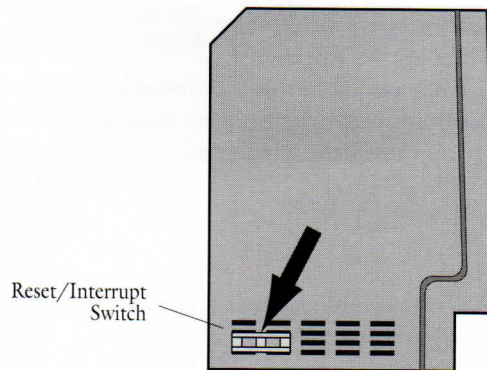

Figure 3 : The reset/interrupt switch
3. Remove the reset/interrupt switch (if installed) from the side of the case by prying it off with a small flat-blade screwdriver, as illustrated in Figure 3.